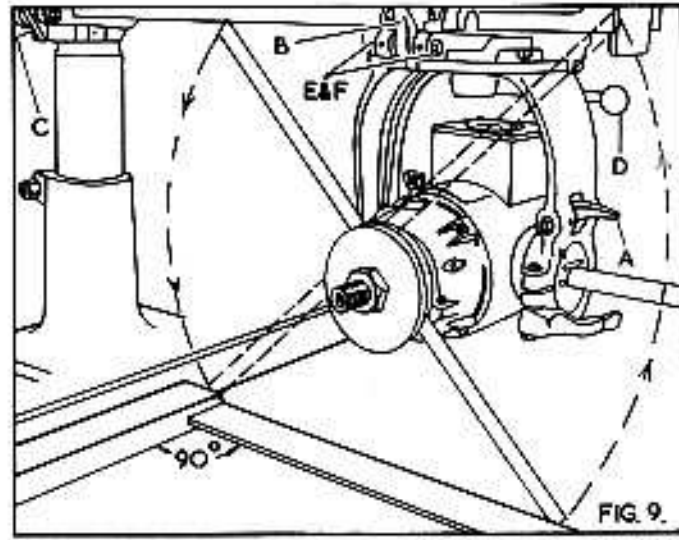
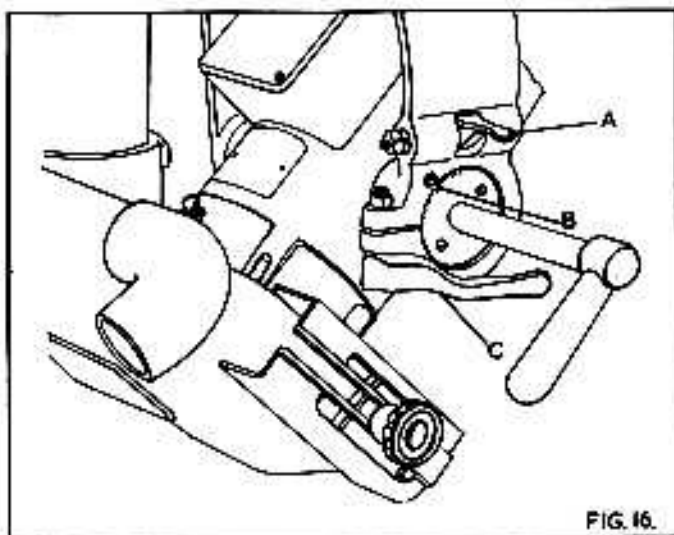

FIG. 9.
FIG. 16.
2. Ensure the motor locating latch "A" in Fig. 9, the stirrup locating latch "B" and the carriage locking screw "C" in Fig. 16 is securely locked.
4. Lift arm locating latch "C" in Fig. 9 and swing arm to extreme ends of the table checking that clearance between rod and table remains constant.
To check this alignment place a steel rule or some other similar straight edge between the saw flanges as shown in Fig. 9 and a steel square against the fence. Rotate the steel rule from front to rear. If adjustment is necessary loosen stirrup locking handle "D", and disengage the stirrup locating latch "E", set correctly, then relock in position with lever "D". Adjust the aerotight nuts "F" and hexagon locknuts "G" until the latch "E" locates accurately in the slot in the stirrup.
The motor swivels within the stirrup through 90°. The principle angles are located by a tapered latch "A" in Fig. 16.